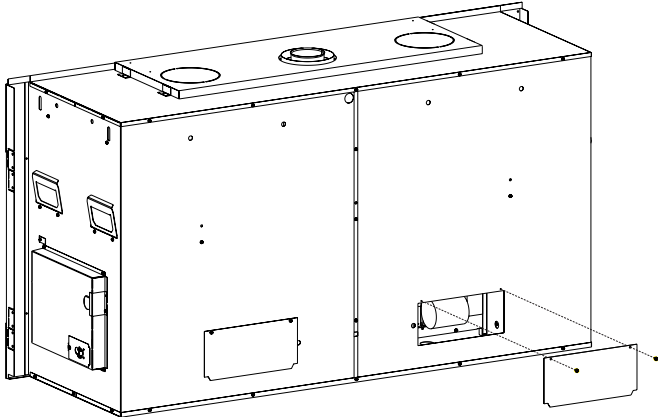

Figure 5
1. Remove Blower Access Panels. See Figure 5.
5. Replace Blower Access Panels removed in step 1. See Figure 5.